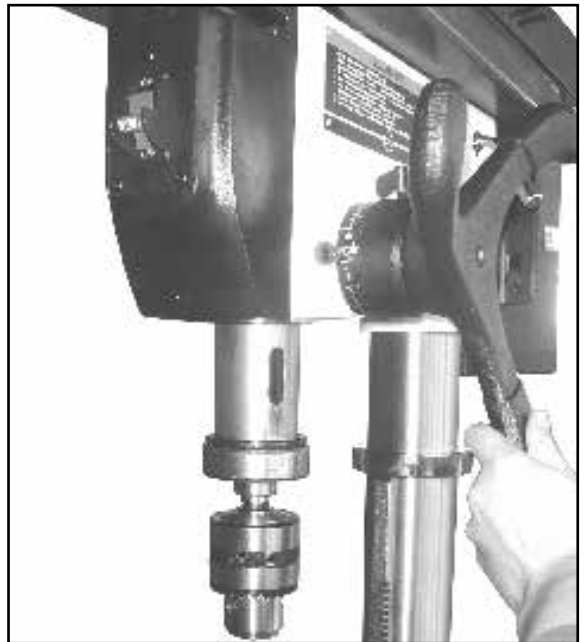

Figure 18
2. Lower the spindle to the desired depth. (Figure.18)